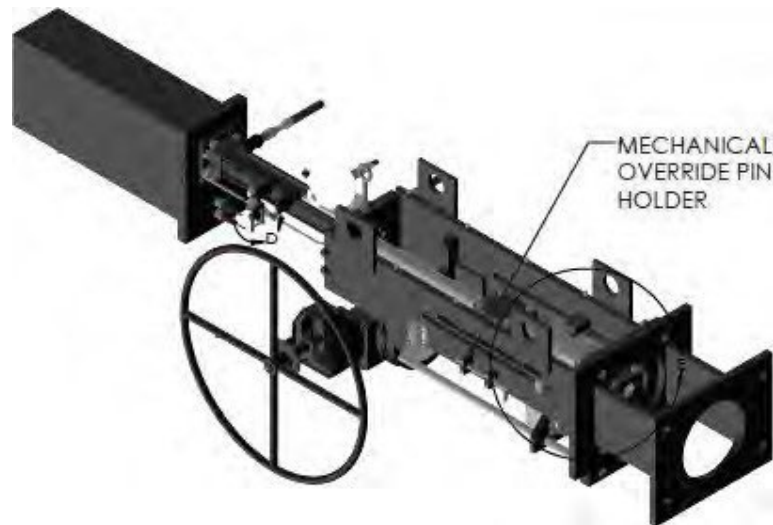
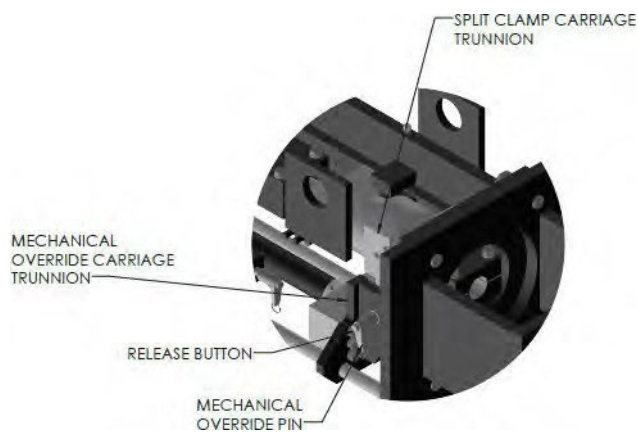

Figure 2
Figure 3
1. Ensure proper lock out and tag out procedures to ensure power is removed from the actuator and the hydraulic system is disabled. see figure 2 for details.
2. Operate handwheel until the mechanical override carriage trunnion aligns to the split clamp carriage trunnion, shown in figure 3.
2. Push the pin release button to remove the pin (Figure 3) and place the pin back into the holder (Figure 2) (small rotations of the handwheel may be needed to relieve tension on pin).